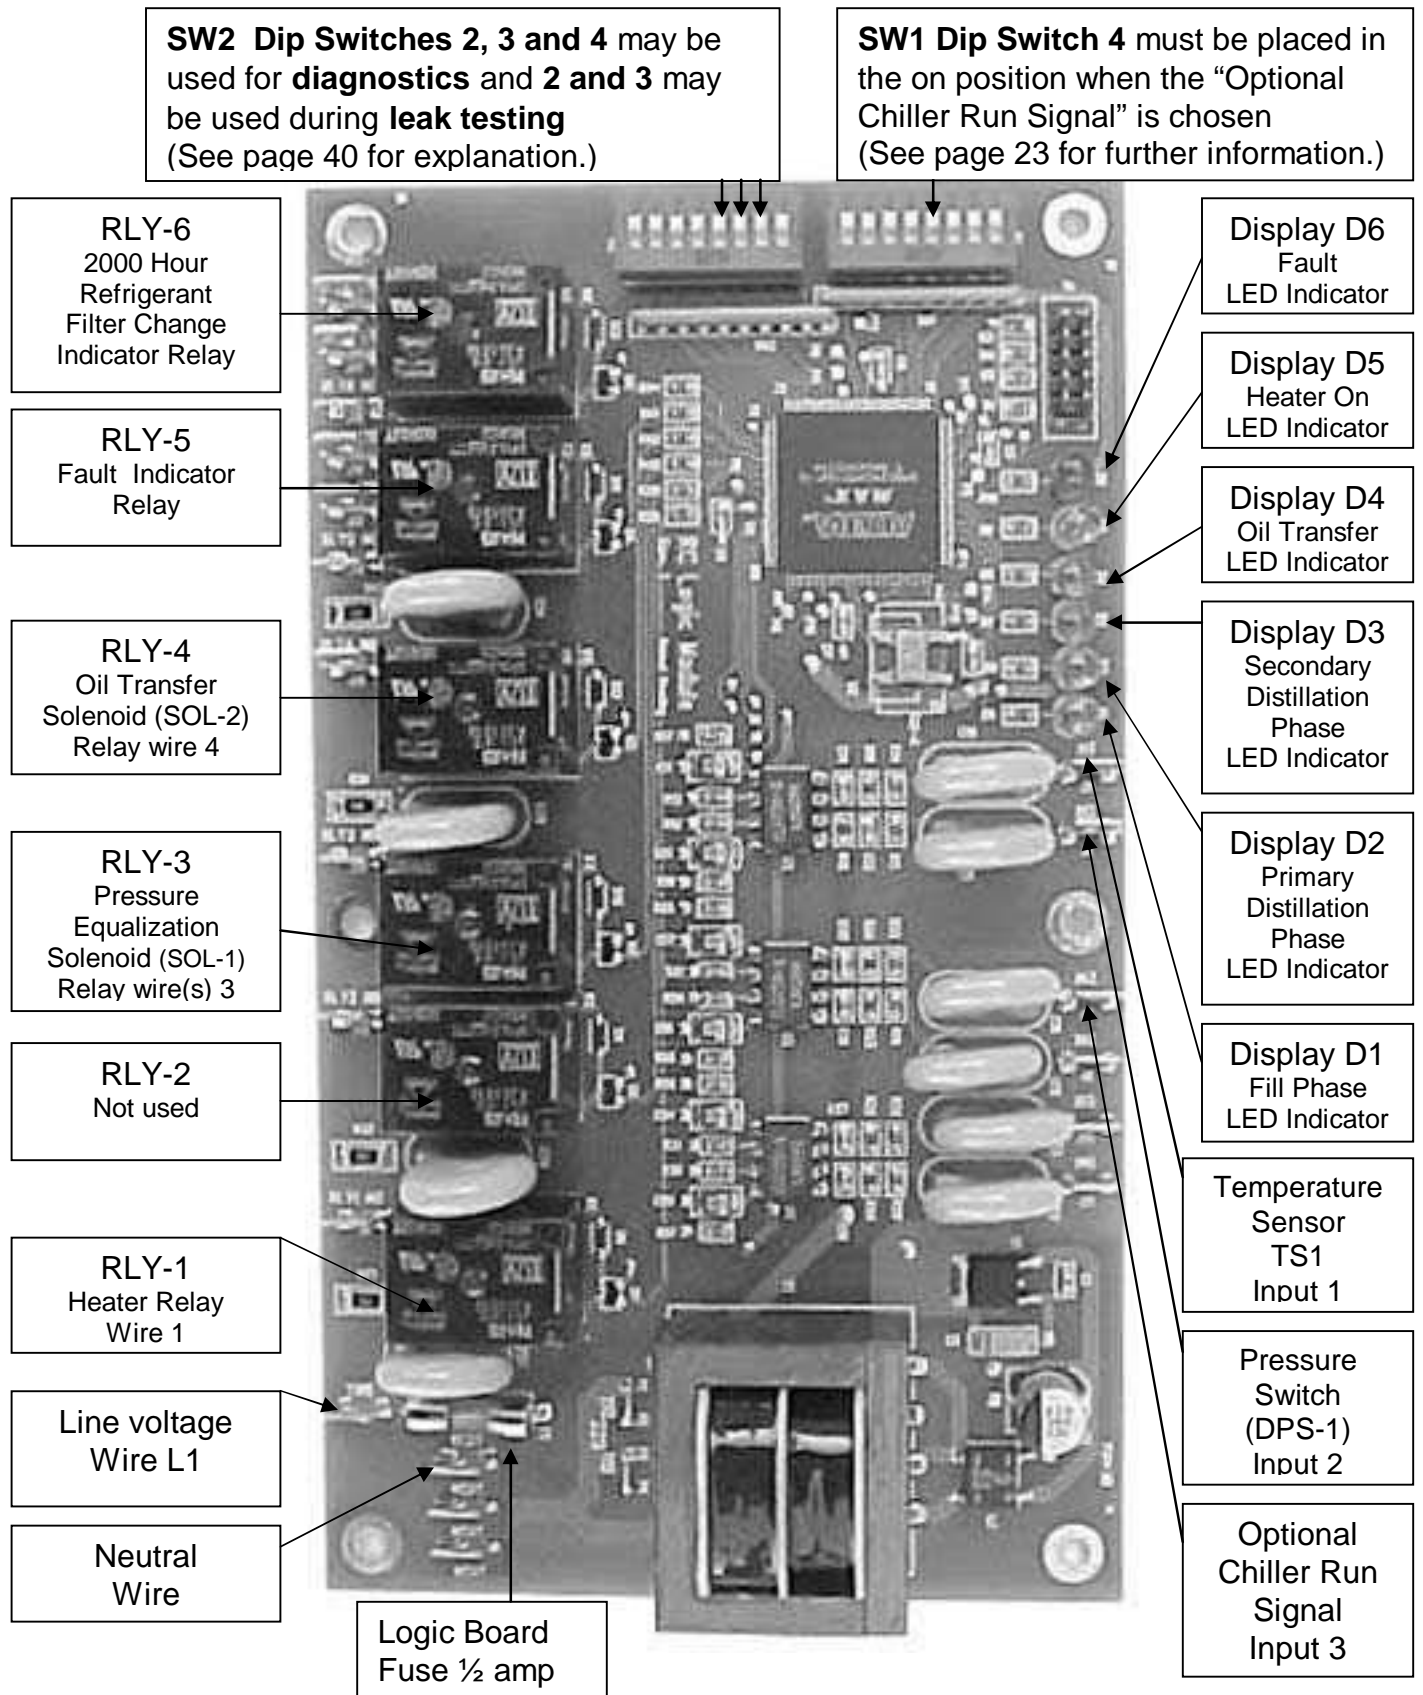

Figure 7. – Solid State Logic Circuit Board
10. The **Green LED** indicator **D1** (see Figure 7, page 33) should now be **blinking**, indicating the purger is in Fill Phase 1 and the Distillation Tank is being filled by gravity with refrigerant / oil mixture from the Chiller.
(See Figure 6, page 31, Figure 7, page 33 and Figure 8, pages 34 and 35.)
(See Fig. 7, Page 33 for further information.)
Dip Switch (SW1) & (SW2) During normal operation All Dip Switches on the OAM Purger MUST be in the off position. During diagnostics and leak testing procedures certain Dip Switches on Switch SW2 are placed in the on position. If the “Chiller Run Signal Option” is utilized, Dip Switch 4 on Switch SW1 will be in the on position. (See Fig. 7, page 33.)
(See Figure 7, on page 33)
Dip Switch (SW1) & (SW2) During normal operation All Dip Switches on the OAM Purger MUST be in the off position. During diagnostics and leak testing procedures certain Dip Switches on Switch SW2 are placed in the on position. If the “Chiller Run Signal Option” is utilized Dip Switch 4 on Switch SW1 will be in the on position. (See Fig. 7, page 33.)
5. Remove cover from Electrical Panel, on **Switch SW2** flip **Dip Switches 3 and 4** to the **ON** position. *(This procedure allows the Oil Return Solenoid Valve and Distillation Heater **ONLY** to energize when power is re-applied.) (See Figure 7, on page 33 for location of SW2).*
6. Connect low side manifold gauge to the schrader access fitting at top of Distillation Tank. Add approximately one (1) pound of refrigerant (**same refrigerant as in chiller**) to Distillation Tank.
WARNING: Be sure DIP Switches 2, 3 and 4 on Switch SW2 are returned to the **OFF** position when finished. If any of these DIP Switches are left in the ON position, the OAM Purger will not function. (See Fig. 7, page 33 for location of Switch SW2.)
WARNING: Be sure DIP Switches 2 and 3 on SW2 are returned to the **OFF** position when finished. If either of these DIP Switches are left in the ON position, the OAM Purger will not function. (See Fig. 7, page 33 for location of Switch SW2.)